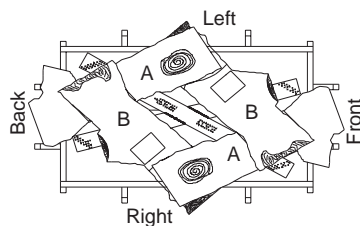

Figure 50 - Installing Logs "B" (Top View)
7. Place logs "B" as shown in Figure 50. Lift end of log "A" that will be propped up and place log "B" under it. At the same time, the other side of log "B" is placed over the other log "A". Repeat procedure for the other log "B".